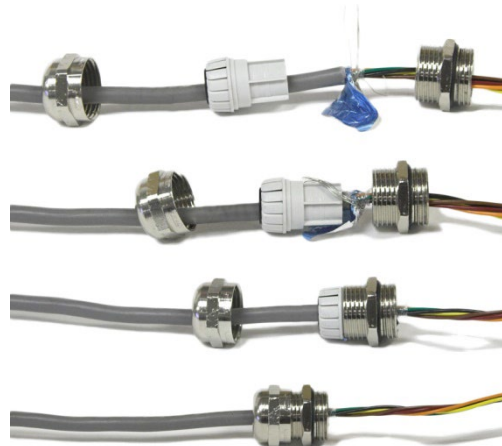

Figure 2-2: Shield Termination at Gland
3. Cables that include shields should have the shield terminated at the gland as shown in Figure 2-2. Spread the shield wires out and make sure enough shield wire is present to make good contact with the metal part of the gland.